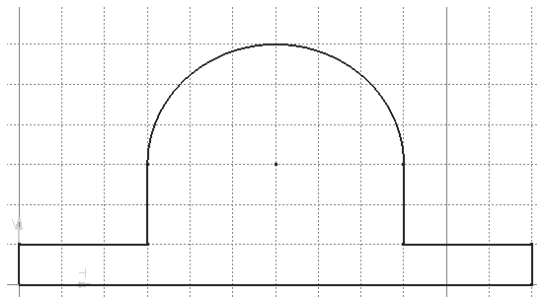

Figure 1-51 The sketch, after drawing the outer loop
- b. Draw the sketch of the model using the **Profile** and the **Circle** tools, refer to Figures 1-51 and 1-52.
The sketch, after drawing the outer loop, is shown in Figure 1-51.